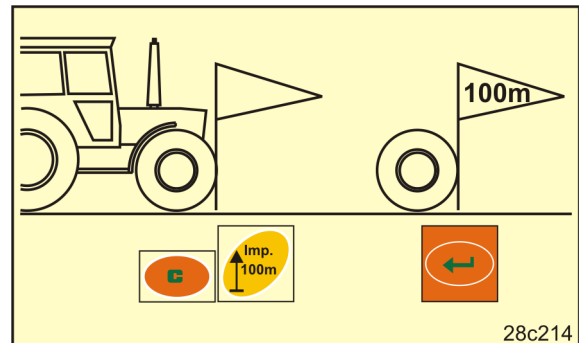

Fig. 19
2. Move tractor to starting position (Fig. 19) and seed drill to working position (if necessary, interrupt seed metering).